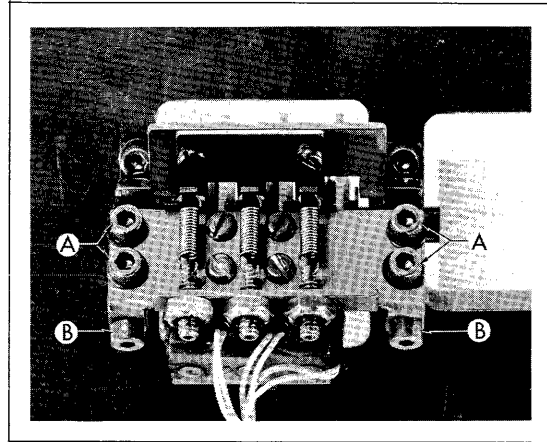

Figure 21
Tip adjustment affects all escapements on a clutch bank at once. Loosen the four 6-32 socket cap screws (A, Figure 21). With the armatures actuated, turn the two adjusting screws (B) to achieve a .010 - .012" (.25 - .30mm) gap between the highest tooth on each control sleeve and the corresponding armature tips. See Figure 22A. Be sure the armatures are flat on their fulcrums, and not pulled down farther than their normal travel. Note: Tip adjustment affects air gap. Check air gap.